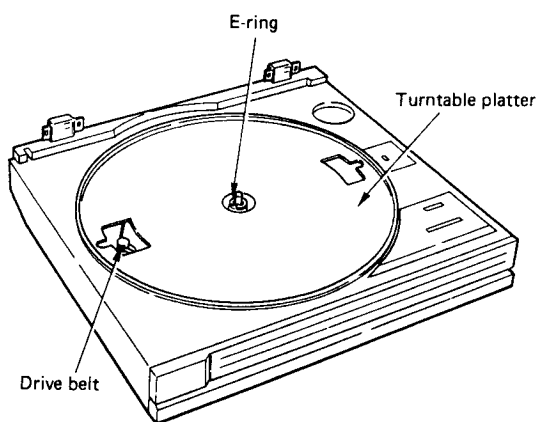

Fig. 22
- 1) Removing the turntable platter sheet, set the turntable platter to the position shown in Fig. 22.